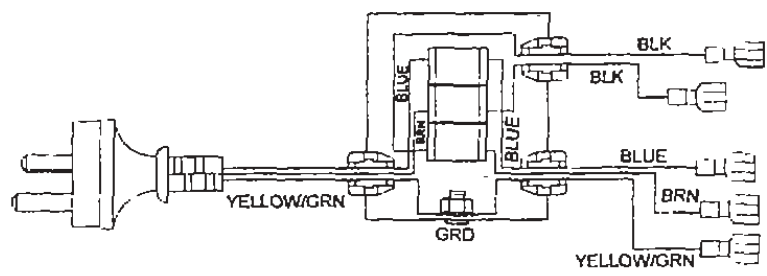

FIGURE 11
Use of the fan requires that the Junction Box (factory installed) be connected to 240 VAC service before permanently enclosing the heater. The access hole for connecting the service wires is found on the right exterior side of the unit. Figure 11 shows the fan, switches, and fan wiring diagram.
3. Using the wire connector provided inside the junction box, attach the neutral service wire to the blue wire, the hot service wire to the black wire, and the service ground wire to the ground stud of the junction box. See Figure 10. for wire connection detail and Figure 11 for a complete wiring diagram.
The accessory fan is wired in series with a speed control switch and a temperature sensor switch. Set the speed control to an "ON" position and light the heater. The temperature sensor switch will automatically start the fan when the switch warms up—and stop the fan when it cools down. You can manually stop the fan by turning the speed control switch to "OFF". See Figure 11 for fan wiring diagram.